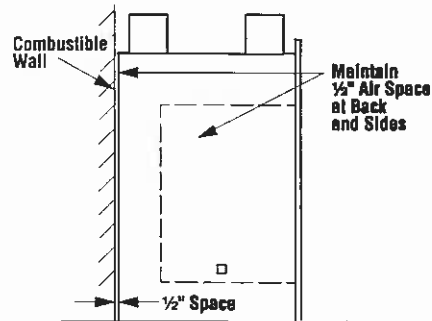

Figure 15
**WARNING: DO NOT PACK OR FILL REQUIRED AIR SPACES WITH INSULATION OR OTHER MATERIAL. NO MATERIAL IS ALLOWED IN THESE AREAS (FIGURES 15 AND 16).**